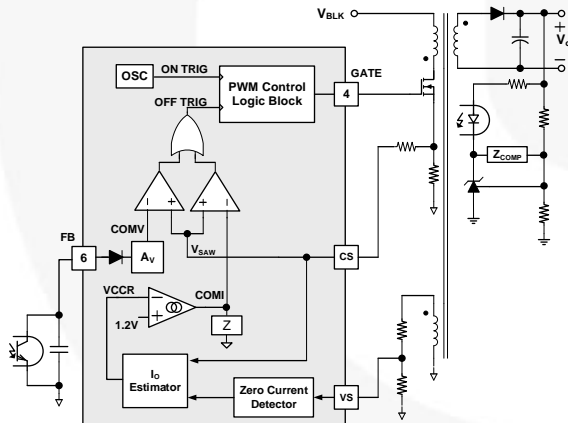

Figure 37. Simplified PWM Control Circuit
Figure 37 shows a simplified CV / CC PWM control circuit of the FAN602L. The Constant Voltage (CV) regulation is implemented in the same manner as the conventional isolated power supply, where the output voltage is sensed using a voltage divider and compared with the internal reference of the shunt regulator to generate a compensation signal. The compensation signal is transferred to the primary side through an optocoupler and scaled down by attenuator A_V to generate a COMV signal. This COMV signal is applied to the PWM comparator to determine the duty cycle.